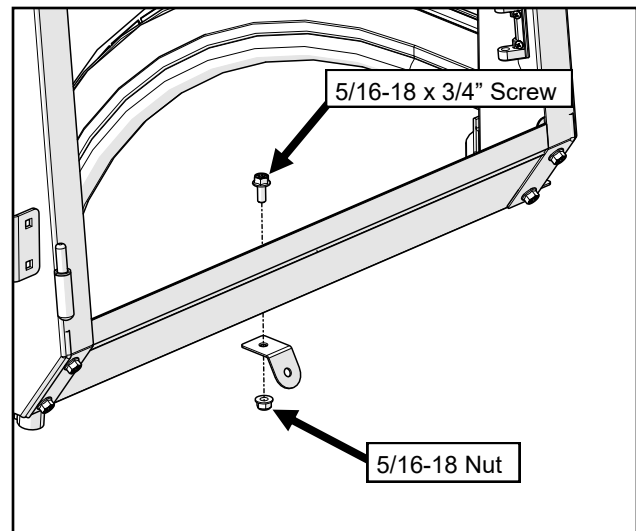

Fig. 18.1 (Install Top Link Bracket)
**18.1** If desired, install the top link bracket to the bottom of the lower rear panel. See Figure 18.1. Note: The flat edge of the bracket is mounted to the lower rear panel and the round edge is for the hook.